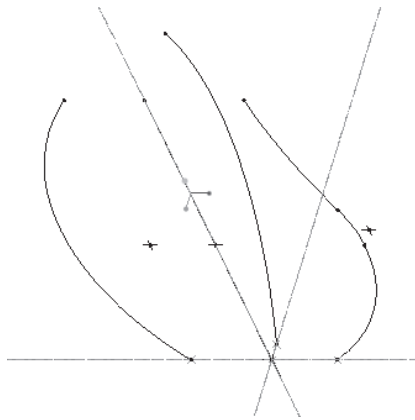

Figure 8-32 Default view of the four trajectories
20. Choose the **Default** option from the **Saved view list** button in the **Top Toolbar** to view the trajectories you have created, shown in Figure 8-32. This view gives a better view of trajectories in 3D space.